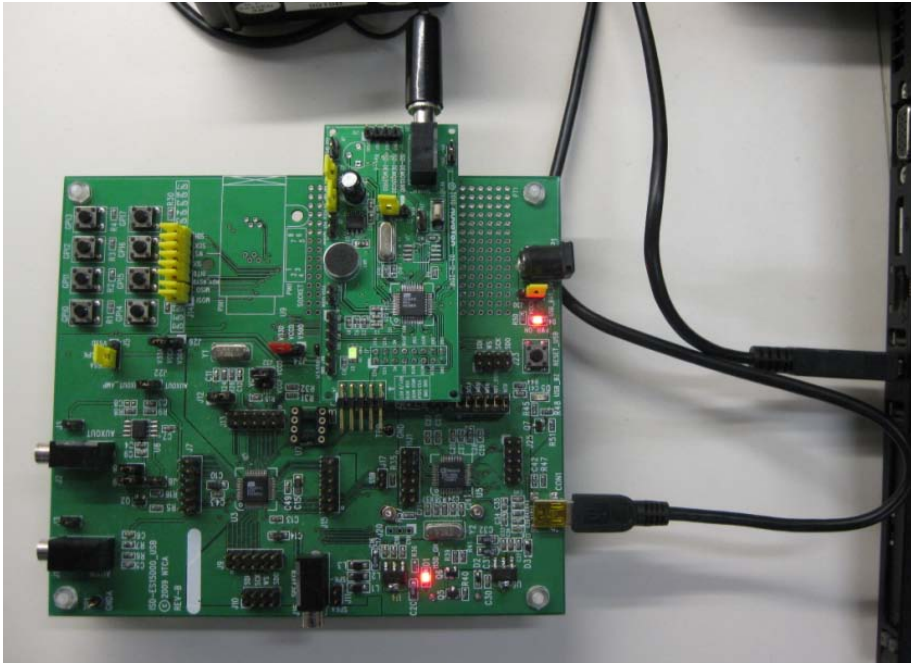

Figure 7 – ISD-DEMO15100 is connected onto ISD-ES15D00_USB mother board
J3: 2x8 connection header for connecting with ISD-ES15D00_USB board or ISD-ES15100_USB mother board, shown in **Figure 7**.
- ISD-DEMO15100 + the big ISD15XXX evaluation board, shown in **Figure 7**.